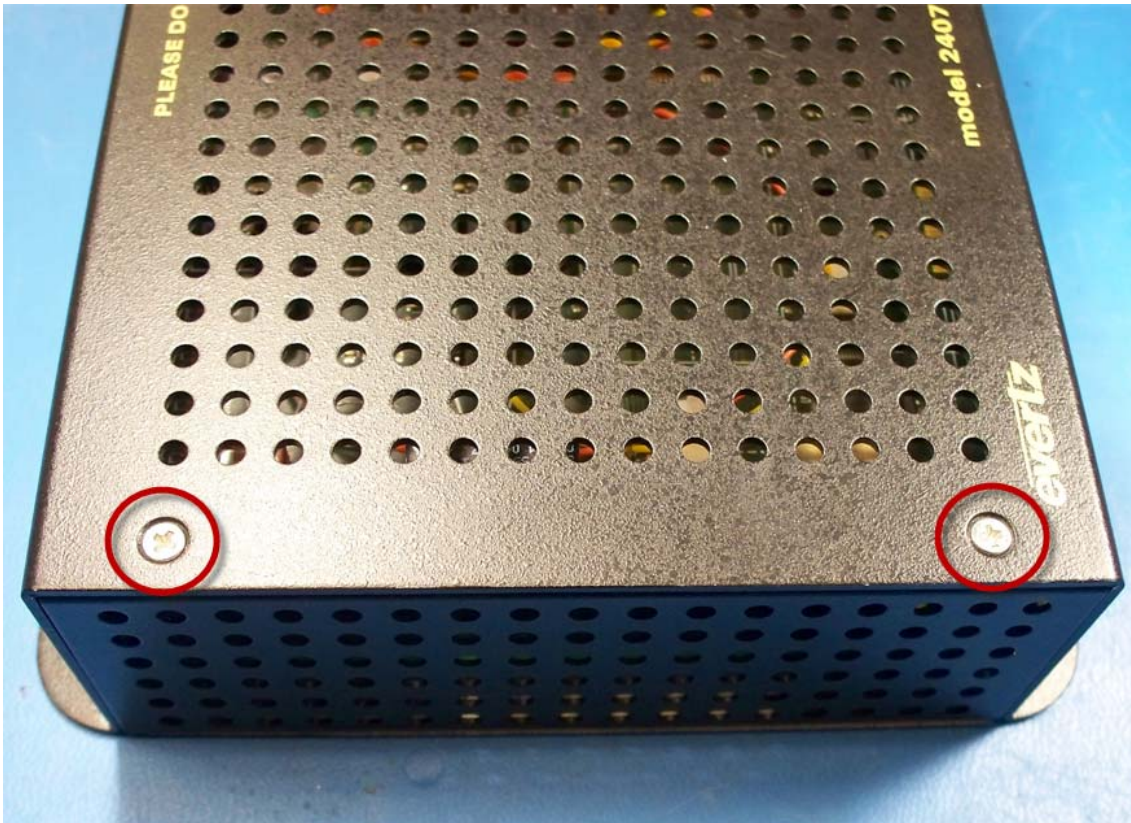

Figure 4-1: Identifying Top Screws
1. Locate the two screws on the top (near the front) of the 2407 unit, as shown in Figure 4-1.
2. Remove these two screws (highlighted in Figure 4-1 with red circles).